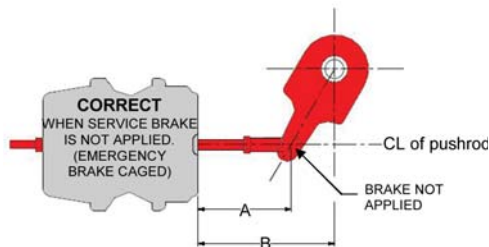

Figure 10
6. Release the brakes (brakes not applied). Measure length of the push rod from the surface of the service base to the center line of the clevis pin. Refer to Figure 10, Dimension "A." Record this dimension.